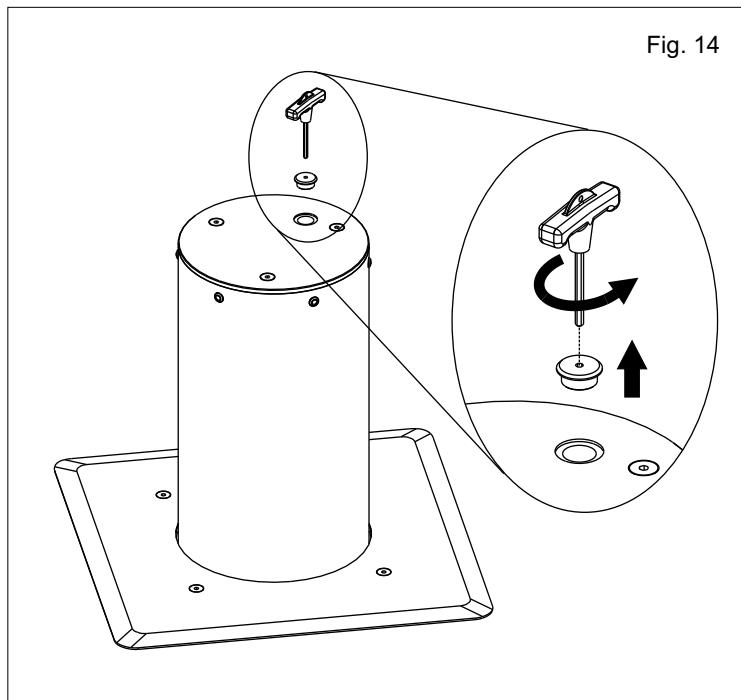

Fig. 14
**9.1.** Unscrew the cover of the release using the appropriate hexagonal key in equipment (Fig. 14).